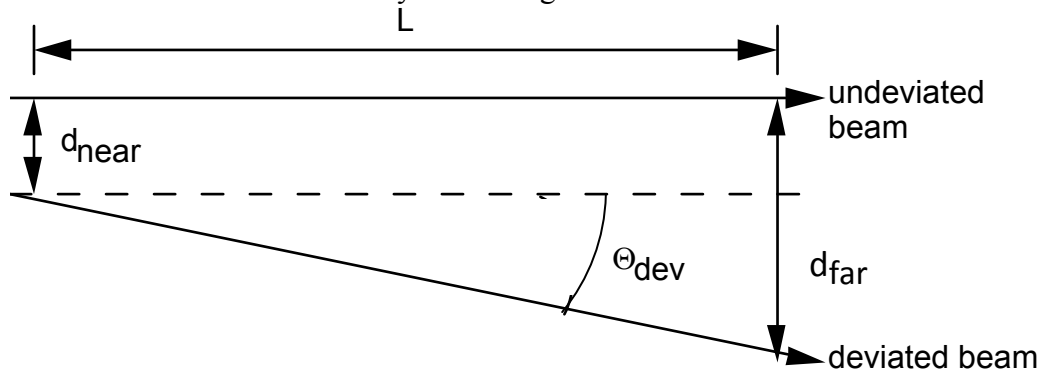

Fig. 5: Deviation of beam going through slab.
8. In practice, the laser beam may emerge not only displaced laterally, but also making some angle  $\Theta_{dev}$  with respect to the incident path. Referring to figure 5 below, use the equation (valid for small angles measured in radians, for which  $\tan\theta \approx \sin\theta \approx \theta$ )